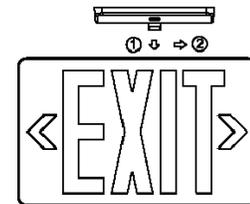

Figure 4 - Canopy Attachment
- Remove the mounting hole cover on the top of the unit and assemble the canopy to the unit (Figure 4)
- Install the fixture on the junction box using the (2) included screws (#8-32) and fasten the canopy to the crossbar.